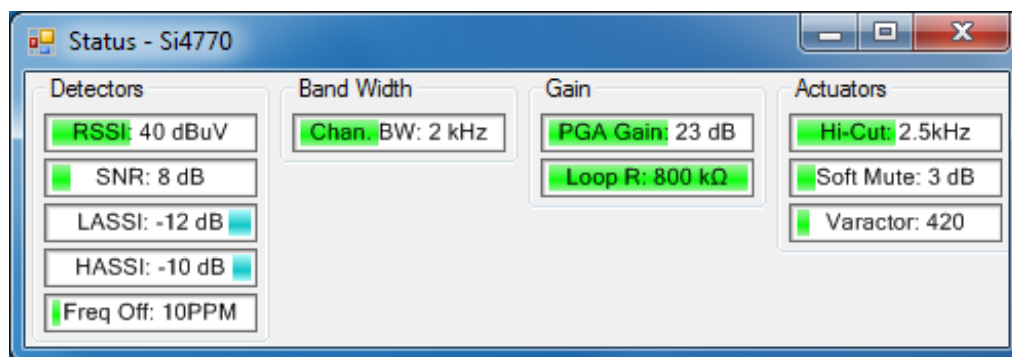

Figure 22. AM Status Indicator Window
- Status Indicator Undock:** Opens a separate window with status indicators, as shown in Figure 22. “AM Status Indicator Window”.